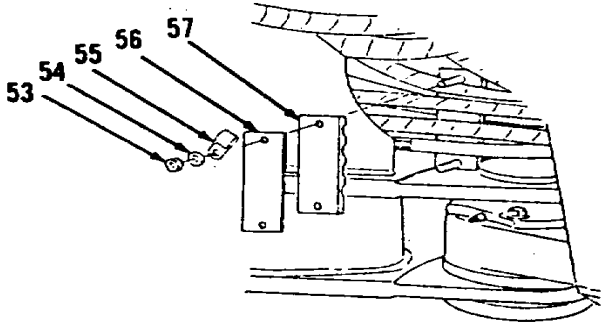
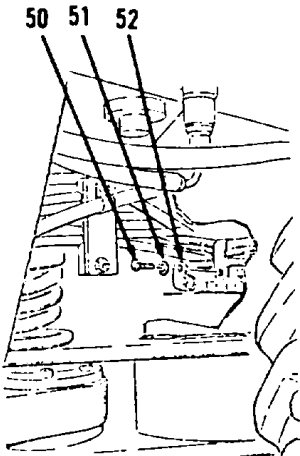

Figure 10-175.
Figure 10-174.
- 7. Install new preformed packing (66) and connector (65).
- 8. Install new preformed packing (64) and connector (63).
- 9. Install new preformed packing (62) and connector (61).
- 11. Install clamp (57), plate (56), clip (55, Figure 10-175).
- 12. Install two washers (54) and nuts (53).
- 13. Install clip (52), washer (51) and bolt (50, Figure 10-174).